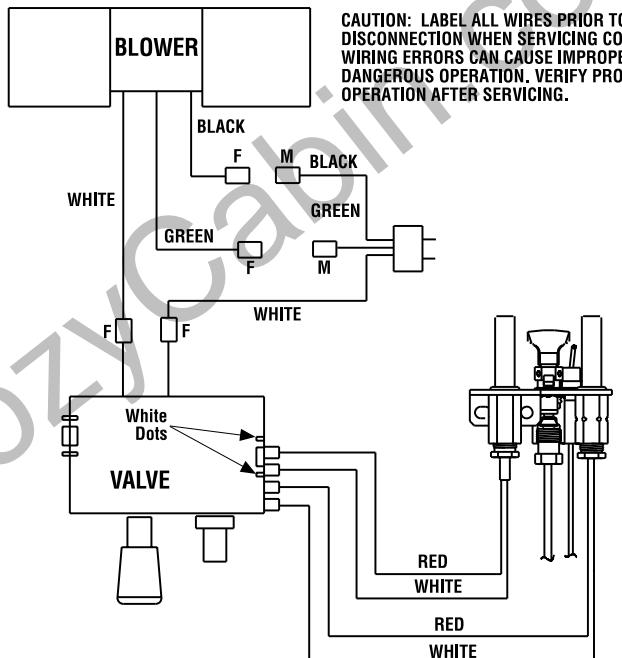

Figure 4
Step 2. Switch the front two thermopile leads with the back two. Be sure the lead is connected to the spade with the white dot next to it (see **Figure 4**). If the Error Code 3 is still showing, replace the thermopiles.